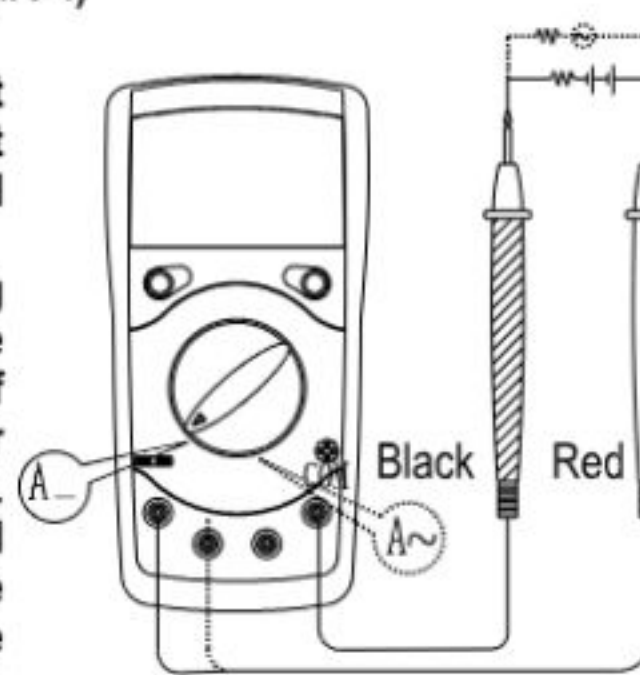

figure 4
C. DC Current Measurement (see figure 4)
D. AC Current Measurement (see figure 4 with dotted line)